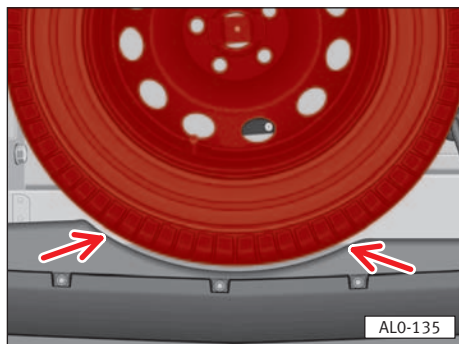

Fig. 173
- Stand the wheel behind the vehicle, as shown in the **fig. 173**.
- Turn the bolt in the luggage compartment floor clockwise with the wheel spanner to lift the wheel into the spare wheel bracket under the vehicle. **Ensure that the spare wheel fits into the recess (arrows) in the bumper ⇒ fig. 173.**